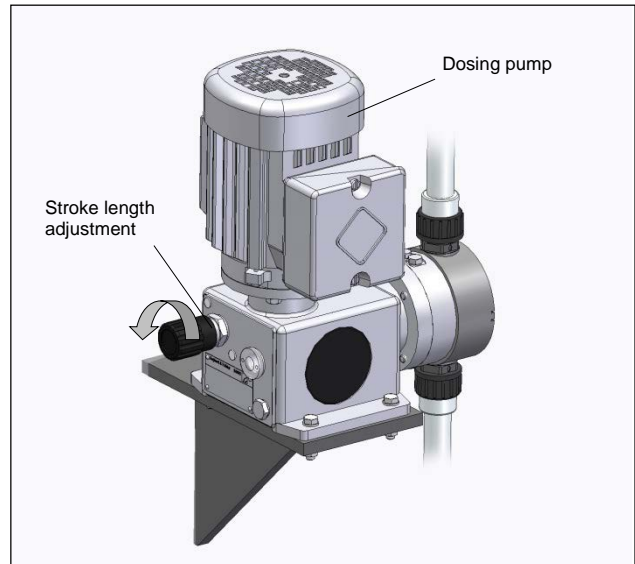

Fig. 23
- Start-up pump / system; increase delivery rate of the pump slowly by adjusting the stroke frequency and / or the stroke length up to the maximum value (see Fig. 23).